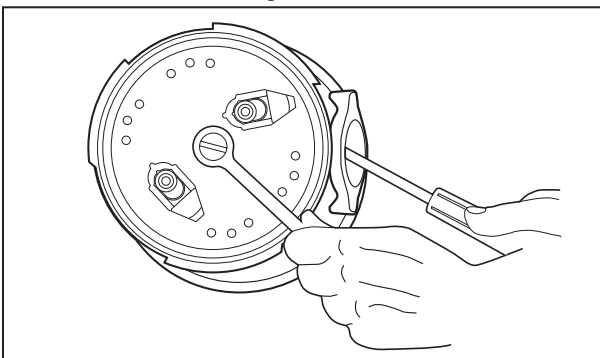

Figure 4.10
12. Secure rotor shaft from turning with 1/4" allen wrench in end of rotor shaft or by jamming rotating shredder with screwdriver through discharge outlet (see Figure 4.10). Remove bolt securing rotating shredder plate to rotor shaft. Pull rotor shaft out from upper end bell.